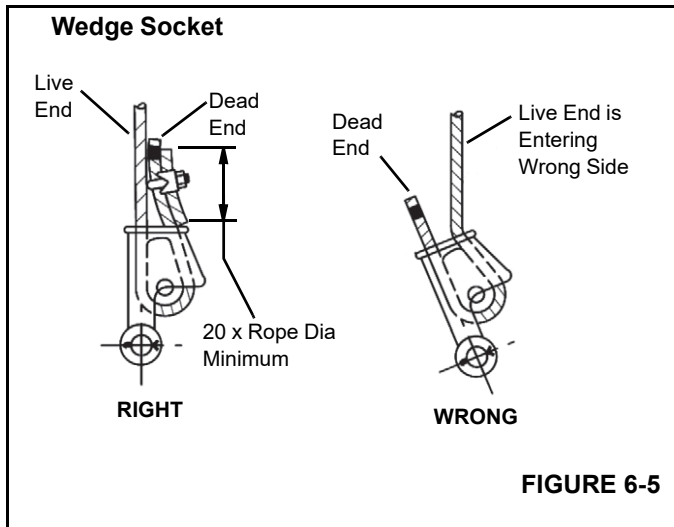

FIGURE 6-5
10. Attach the wedge socket to the free end of the rope as shown in (Figure 6-5). If you are using a terminator wedge socket, see Figure 6-4.
3. Make sure the live-end (Figure 6-5) of the rope is directly in line with the ears of the socket and the direction of pull to which the rope will be subjected. If the rope is loaded into the socket incorrectly, under a load the rope will bend as it leaves the socket, and the edge of the socket will wear into the rope causing damage to the rope and eventual failure.
4. Insert the end of the wire rope into the socket, form a loop in the rope, and route the rope back through the socket allowing the dead-end (Figure 6-5) to protrude from the socket. Ensure the dead-end of the rope is of sufficient length to apply end treatment to the dead-end after the wedge has been seated.